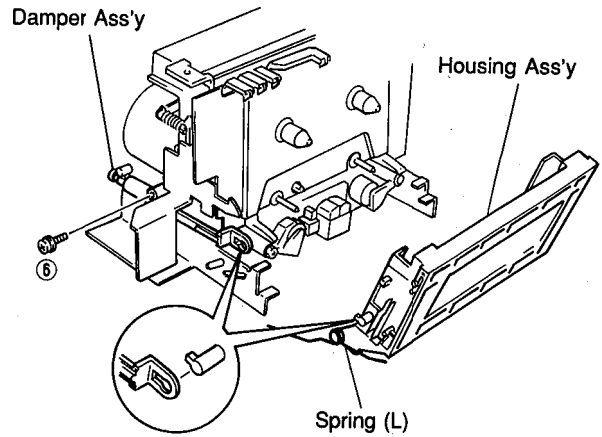

Fig. 3
- Detach the spring in Fig. 3.
- Remove 1 screw (⑥) and then remove the Damper Ass'y in Fig. 3.